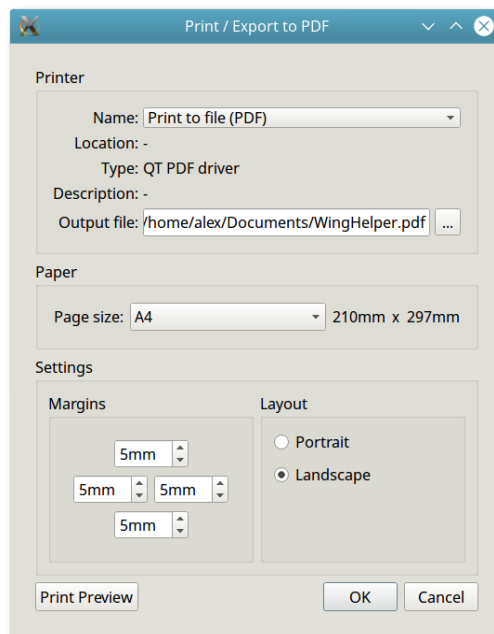

Figure 25: Printing and PDF Export
2. PDF export contains (Figure 25):